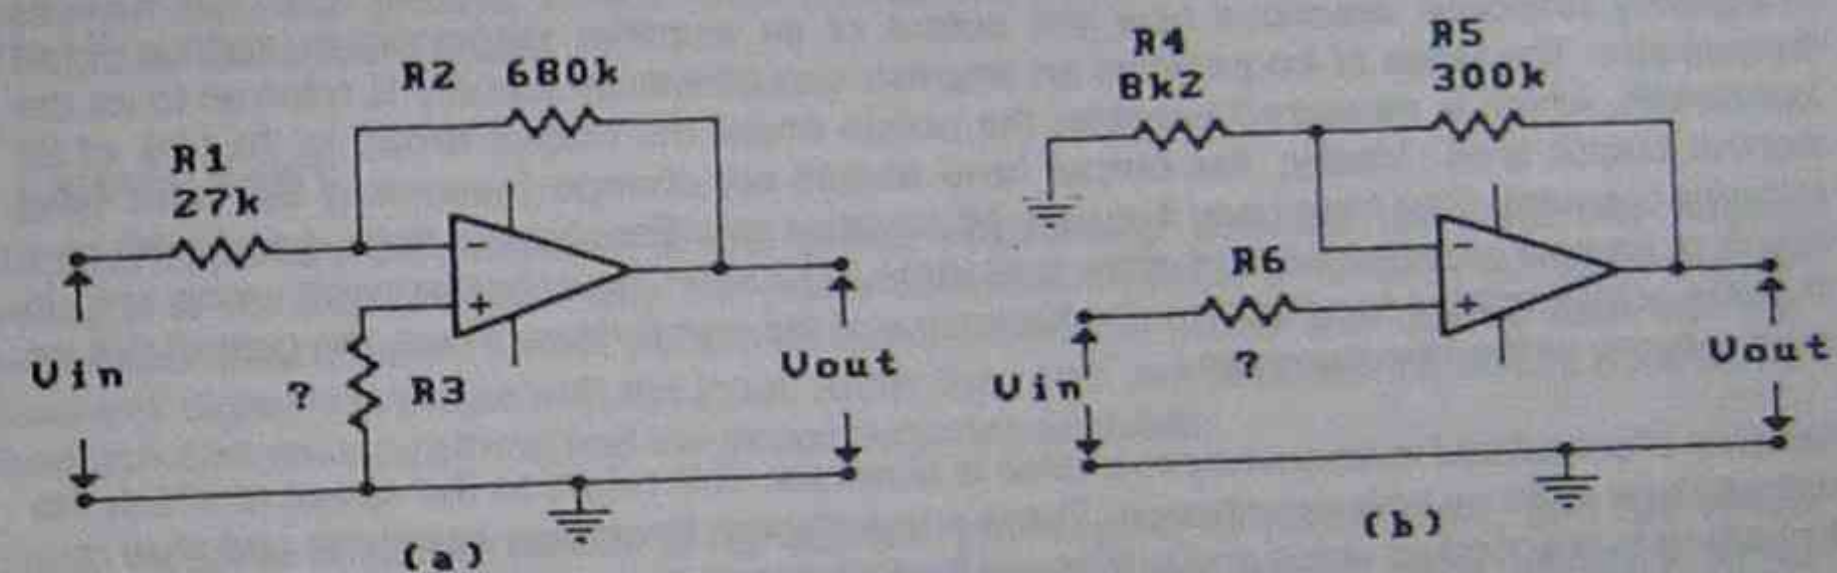

Fig.1.
2. For the circuits of Fig.1, determine the value of the offset minimising resistor.